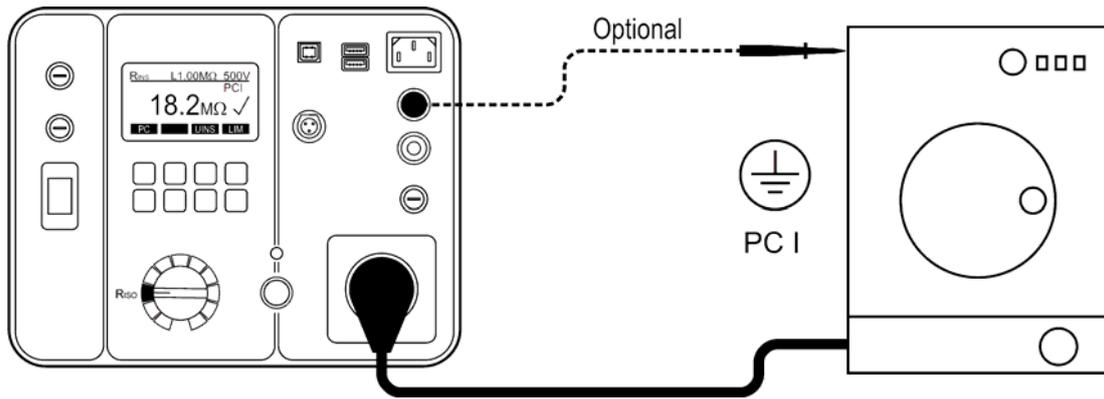

Figure 12: Insulation resistance test connections at appliance PC I
- Connect the appliance and the test lead according to one of the figures 12, 13, 14 or 15, depending on appliance protection class (PC).